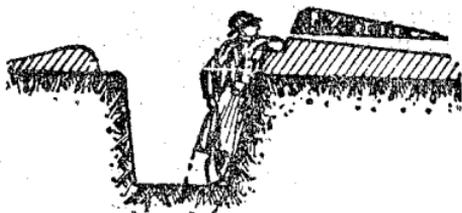
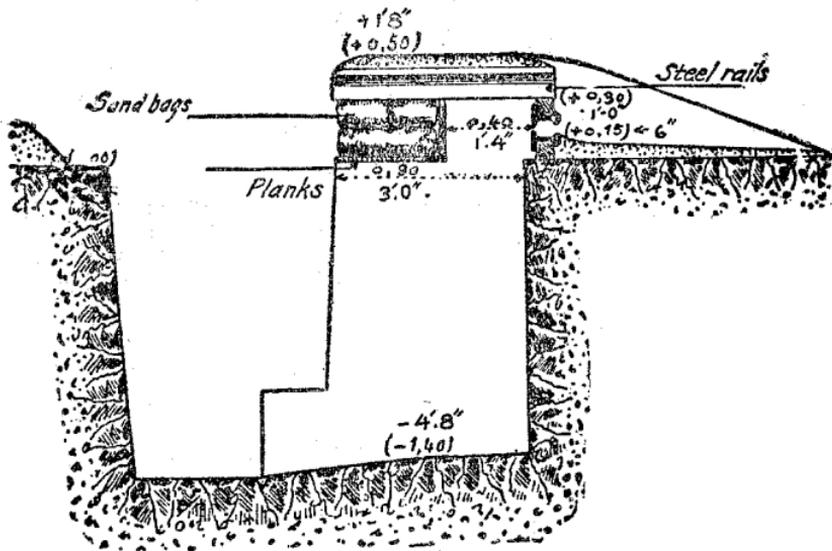

FIG. 225.
FIG. 227.
*At night* the watcher must observe *over the top of the parapet.* If the command is sufficient, the loophole is placed on the natural surface of the ground and the banquette is cut away in line with the loophole, as far as the bottom of the trench. The watcher will thus be well covered. At night he mounts upon the part of the banquette which has not been notched (see figs. 225 and 226). Armored lookout stations consist of niches or metallic boxes (figs. 153 and 154), or are as shown in figures 227 and 228.